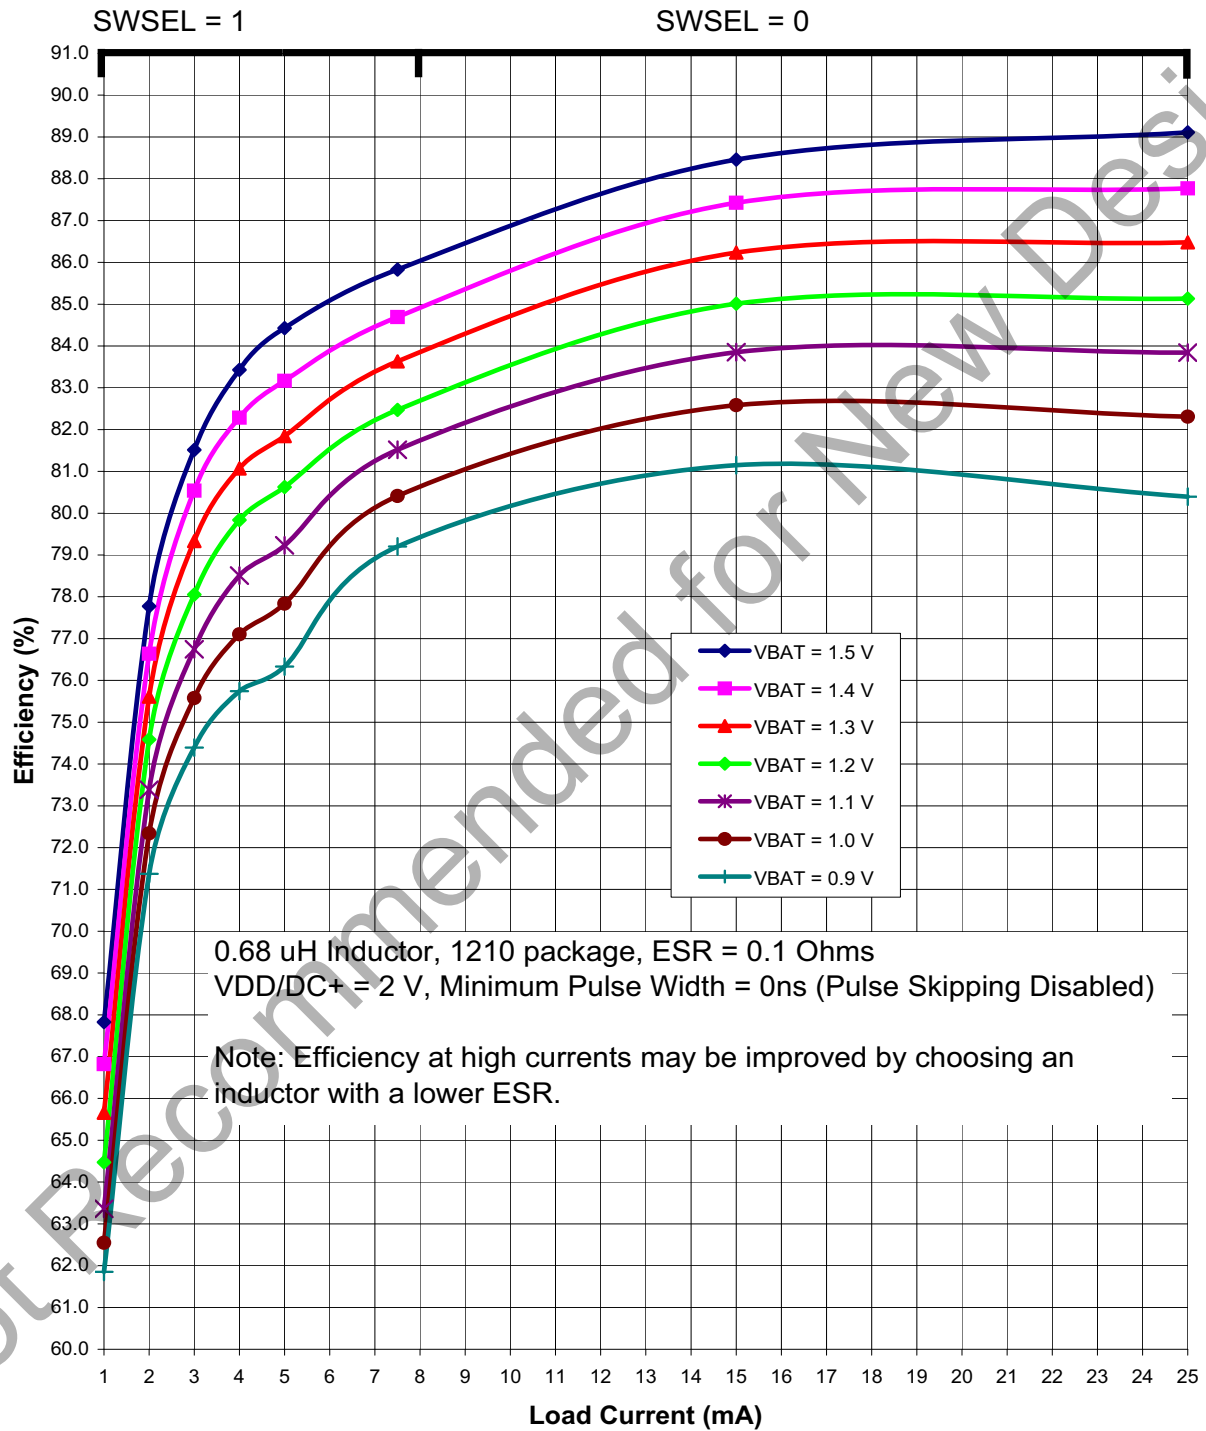
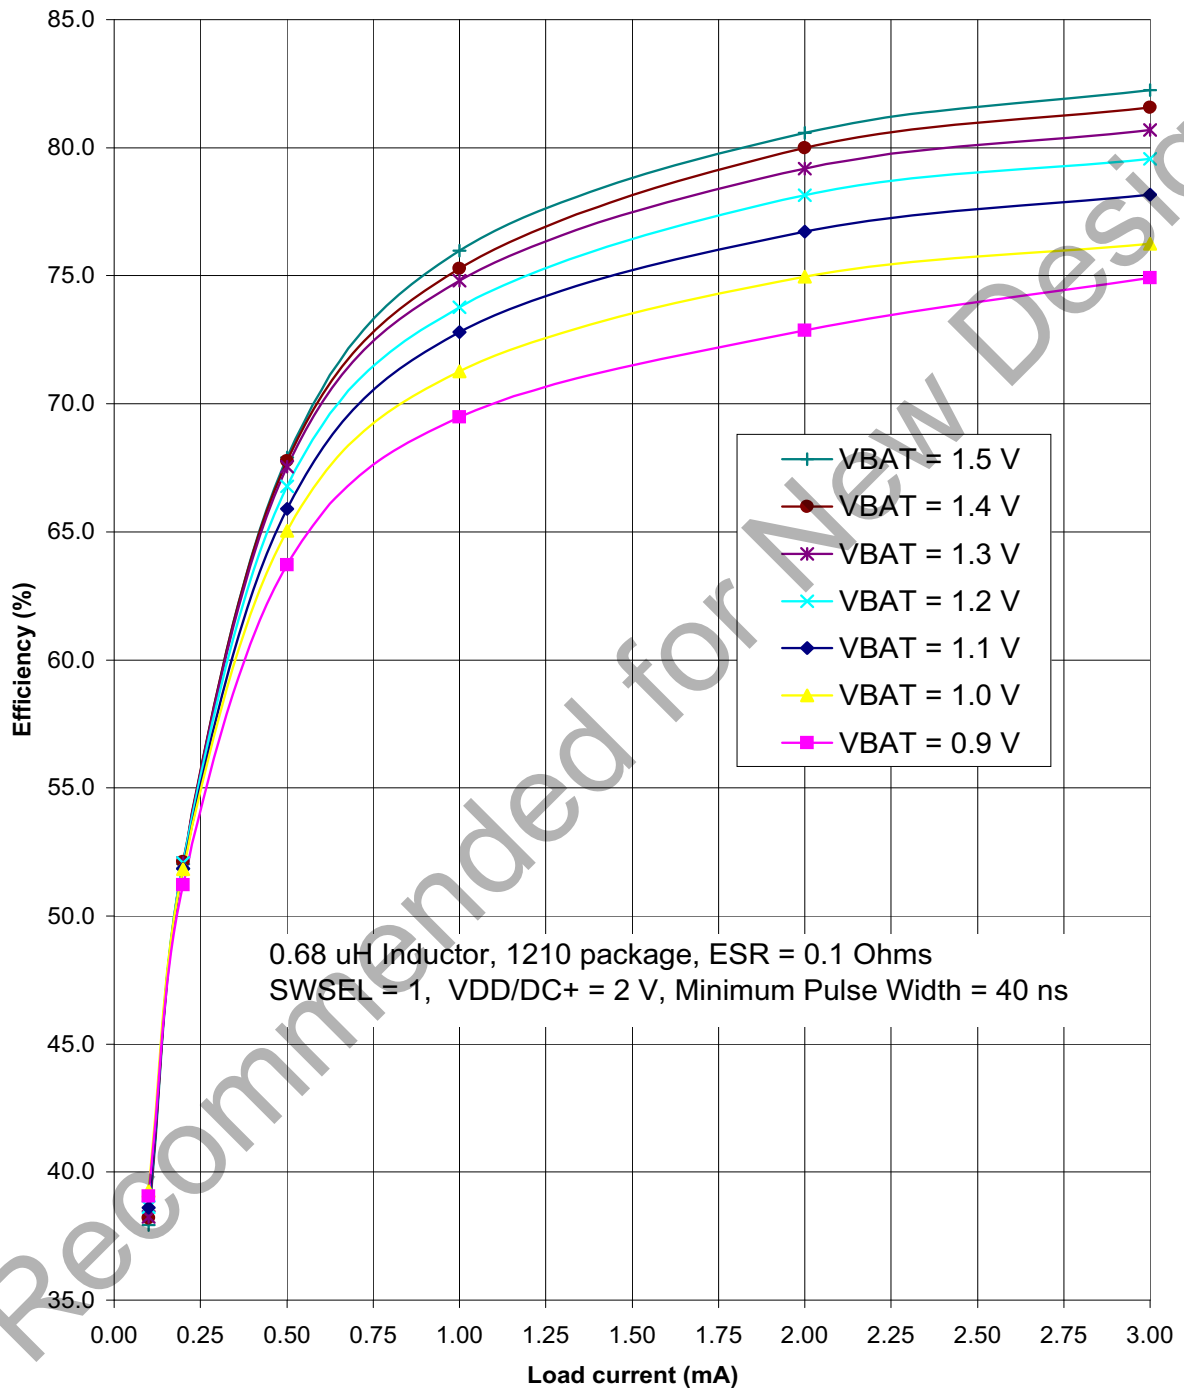

Figure 4.3. Typical DC-DC Converter Efficiency (High Current, VDD/DC+ = 2 V)
Figure 4.5. Typical DC-DC Converter Efficiency (Low Current, VDD/DC+ = 2 V)
<ol style="list-style-type: none"> <li>Based on device characterization data; Not production tested.</li> <li>SYSCLK must be at least 32 kHz to enable debugging.</li> <li>Digital Supply Current depends upon the particular code being executed. The values in this table are obtained with the CPU executing an "sjmp \$" loop, which is the compiled form of a while(1) loop in C. One iteration requires 3 CPU clock cycles, and the Flash memory is read on each cycle. The supply current will vary slightly based on the physical location of the sjmp instruction and the number of Flash address lines that toggle as a result. In the worst case, current can increase by up to 30% if the sjmp loop straddles a 64-byte Flash address boundary (e.g., 0x007F to 0x0080). Real-world code with larger loops and longer linear sequences will have few transitions across the 64-byte address boundaries.</li> <li>Includes oscillator and regulator supply current.</li> <li>IDD can be estimated for frequencies <math>\leq 14</math> MHz by simply multiplying the frequency of interest by the frequency sensitivity number for that range, then adding an offset of 90 <math>\mu</math>A. When using these numbers to estimate <math>I_{DD}</math> for <math>&gt;14</math> MHz, the estimate should be the current at 25 MHz minus the difference in current indicated by the frequency sensitivity number. For example: <math>V_{DD} = 3.0</math> V; <math>F = 20</math> MHz, <math>I_{DD} = 4</math> mA – <math>(25 \text{ MHz} - 20 \text{ MHz}) \times 0.102 \text{ mA/MHz} = 3.5</math> mA assuming the same oscillator setting.</li> <li>The supply current specifications in Table 4.2 are for two cell mode. The VBAT current in one-cell mode can be estimated using the following equation:           <math display="block">\text{VBAT Current (one-cell mode)} = \frac{\text{Supply Voltage} \times \text{Supply Current (two-cell mode)}}{\text{DC-DC Converter Efficiency} \times \text{VBAT Voltage}}</math> <p>The VBAT Voltage is the voltage at the VBAT pin, typically 0.9 to 1.8 V.            The Supply Current (two-cell mode) is the data sheet specification for supply current.            The Supply Voltage is the voltage at the VDD/DC+ pin, typically 1.8 to 3.3 V (default = 1.9 V).            The DC-DC Converter Efficiency can be estimated using Figure 4.3–Figure 4.5.</p> </li> <li>Idle IDD can be estimated by taking the current at 25 MHz minus the difference in current indicated by the frequency sensitivity number. For example: <math>V_{DD} = 3.0</math> V; <math>F = 5</math> MHz, Idle <math>I_{DD} = 2.1</math> mA – <math>(25 \text{ MHz} - 5 \text{ MHz}) \times 0.079 \text{ mA/MHz} = 0.52</math> mA.</li> </ol>